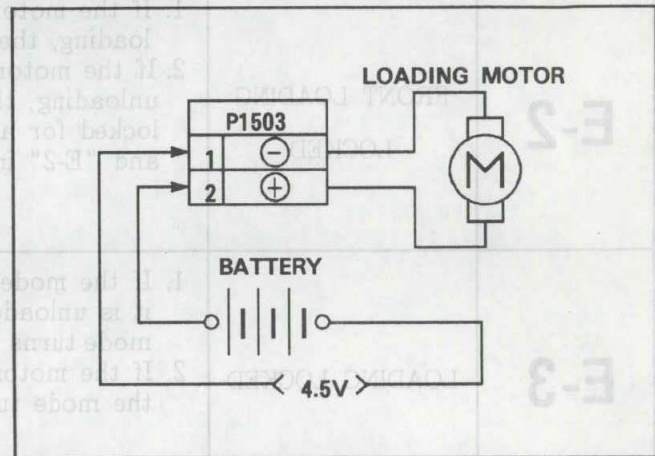

Fig. S2
2. Connect the battery (Manganese-Type (AA) 3pcs./+4.5V) to P1503 as shown in Fig.S2.